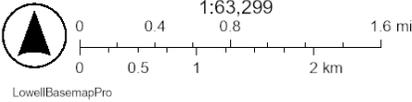

Figure 3. 2023 Buried Manhole Inventory
- Figure 3. 2023 Buried Manhole Inventory 9
The Utility currently has 348 manholes attributed as buried, 14 less than last calendar year, within its GIS database as depicted in Figure 3. During CCTV inspection and paving activities buried manholes are identified and raised.